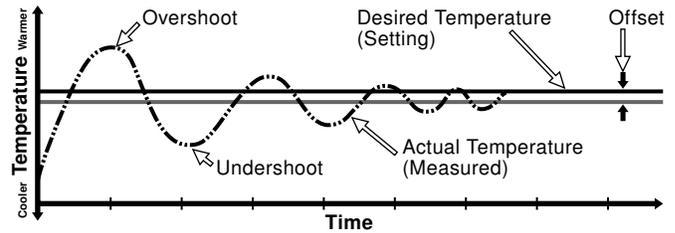

Fig. 3 Proportional function
Proportional (P) processing causes the actual controlled temperature to overshoot, undershoot and finally end up offset from the desired temperature, as shown in figure 3. For indoor temperatures, this poor control action usually results in inaccurate, fluctuating temperatures which can cause discomfort and inefficient system operation. Most mechanical thermostats in use today are P type controls.